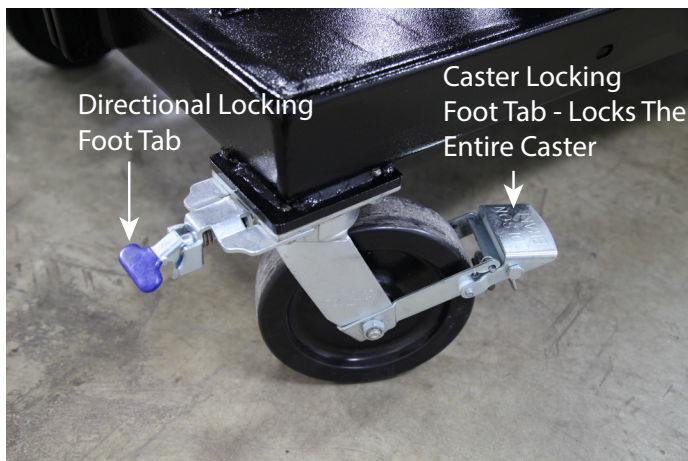

Fig. 5
- 6.) Attach 1/4NPT male 90° swivel fitting to rear of pump. Attach 3/8NPT male to 37° JIC female adapter fitting to front of power unit (under foot pedal). Attach 37° JIC male to 3/8NPT male 90° fitting to adapter fitting just installed. Attach lift table, pre-installed and coiled in table, to 90° fitting just installed. **IMPORTANT:** always use pipe tape/dope on all pipe fittings. Fig. 5.
- 6.) When moving the lift table, with or without a load, the casters may be locked directionally by pressing the blue foot tab downward on the caster. For ease of forward/aft movement only lock one front caster rotationally. Additionally, the lift table may be locked into position by pressing the caster locking foot tab downward. Fig. 5